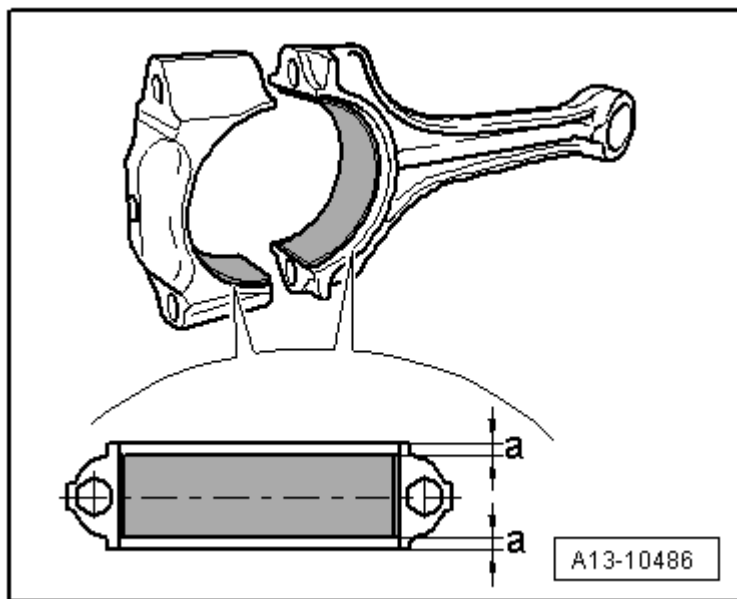

Fig. 19: Identifying Installed Position Of Bearing Shell
- Installed location, refer to **Fig. 19**.